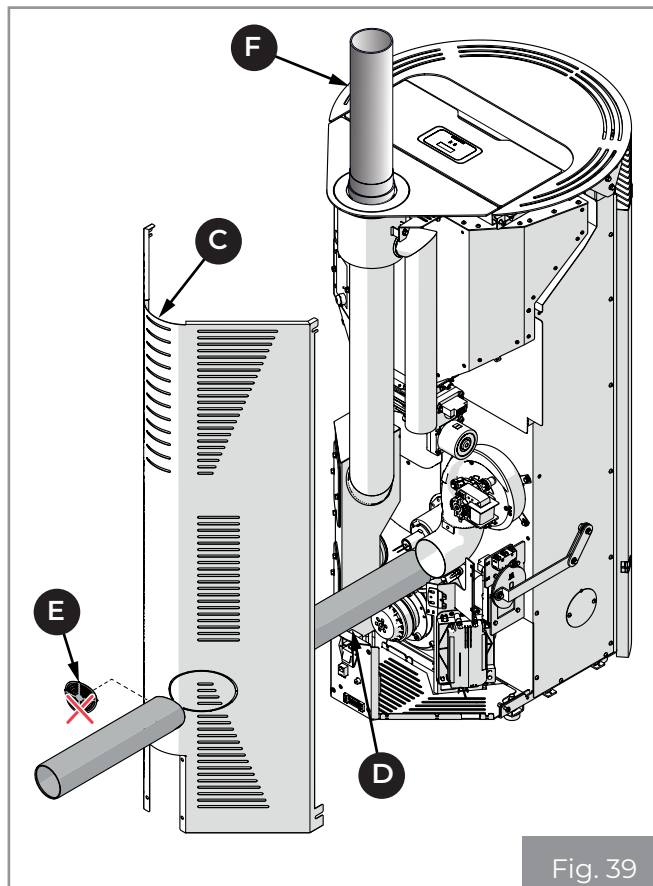

Fig. 39
- Remove the preform **(E)** on the back panel **(C)** and insert the flexible hose **(D)** to connect it to an outside air intake **(Fig. 39)**.
- Connect the flue gas outlet pipe **(F)** **(Fig. 39)**.